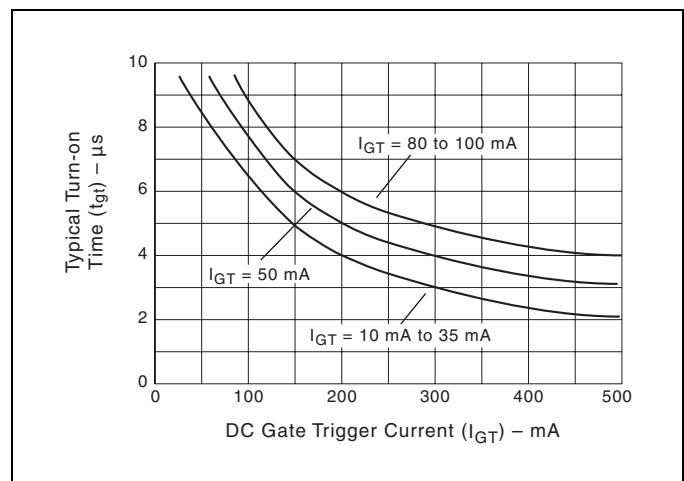

Figure E4.12 Turn-on Time versus Gate Trigger Current (Typical)
- (10) See Figure E4.12 for  $t_{gt}$  versus  $I_{GT}$ .
- (11) See package outlines for lead form configurations. When ordering special lead forming, add type number as suffix to part number.
- (12) Initial on-state current = 400 mA dc for 16 A to 40 A devices and 100 mA for 6 A to 12 A devices.